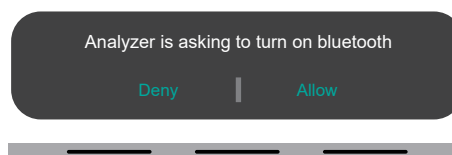

Figure 34. Allow LUCIA Analyzer to Turn on Bluetooth
- Tap allow to turn on the Bluetooth. See Figure 34.